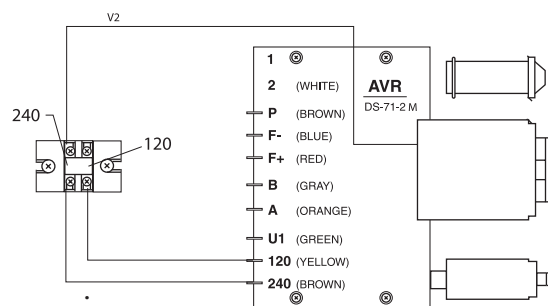

Figure 24: Control Terminal Board, 120/240 Volt Output
- a. Connect the control terminal board for 240 volts (Figure 24).